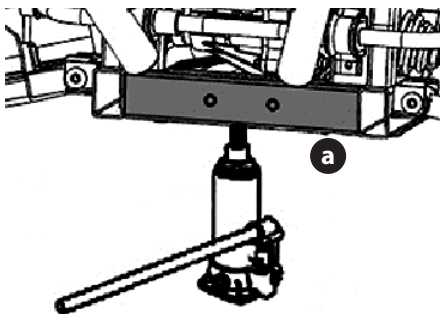

Figure 16
1. Jack up the front end of the utility vehicle on the front frame tube (a) only (Figure 16).